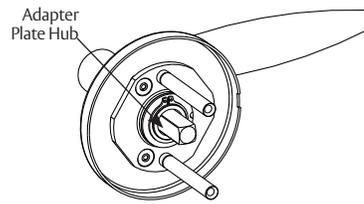

Figure 20
1. Thread adapter plate hub into lever and fully tighten. (Figure 20)